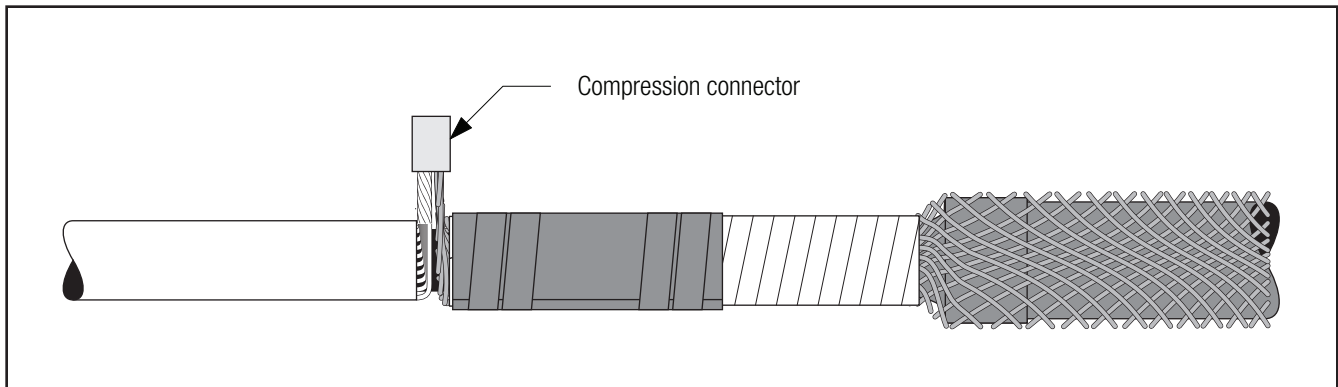

Figure 34
- 6.5.4 Keeping the connector as close as possible to the cable, connect shield sleeve and neutrals together, using a suitable compression connector. ("INLINE," "C," or "H" type). Crimp connector following the connector manufacturer's recommendation. Trim excess neutral wires and sleeve extending beyond the connector (*Figure 34*).